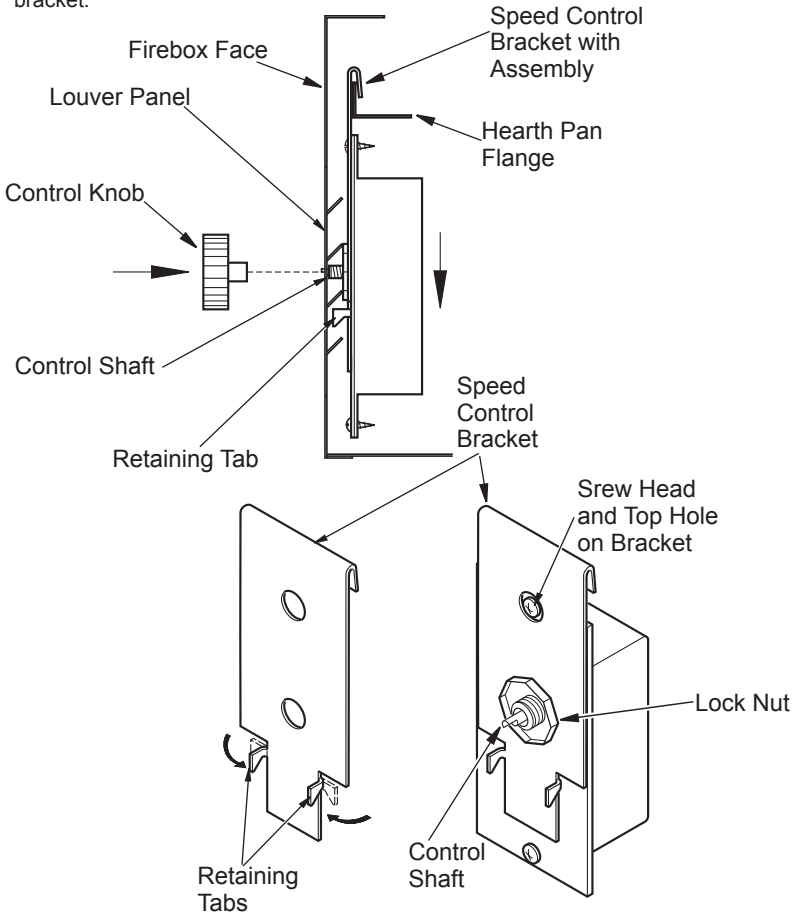

Figure 9: Attaching Speed Control to Firebox with Stamp Faced Louvers (B36 and VB36 Models) Using Speed Control Bracket 109892-01
- Using pliers, bend two retaining tabs on speed control bracket 90 degrees to front of bracket (see Figure 9).
- Mount speed control box by placing plastic control shaft through bottom hole on speed control bracket. Top screw head on control box will fit inside top hole on bracket (see Figure 9). Secure speed control to bracket with lock nut by pushing and turning lock nut with pliers clockwise until it is tight against bracket.
- Position speed control assembly over flange on hearth pan by sliding bracket up between the face and flange, then down until the control shaft is aligned with the opening in the louver panel (see Figure 9).
- Lock two retaining tabs onto lower louver by pressing down on bracket assembly while sliding control knob through rectangular opening on louver and onto the control shaft (see Figure 9).